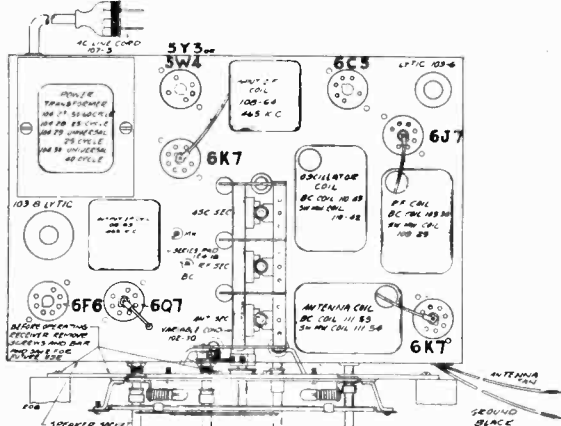

FIG. 3—TOP VIEW—MODEL 778—SERIES A
- (a) Adjust broadcast series pad (adjustment number 5) to resonance with oscillator. Keep set in tune with oscillator by slowly rocking to and fro the variable condenser until maximum output is obtained. Note: This adjustment is accessible from the top of the chassis and is located between the variable condenser and the 108-63 output I.F. transformer. See top view, Fig. 3.